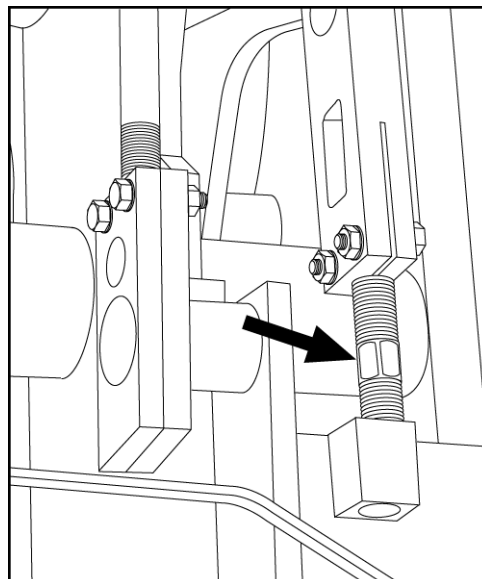

Figure 5.38 STRIPPER HEAD LINK (RIGHT SHOWN)
- 5.9.4 If adjustment is needed, adjust the right hand stripper head adjusting link (clockwise for more, counterclockwise for less); keep an accurate count of how many flats you turn the right hand link (see figure 5.38).